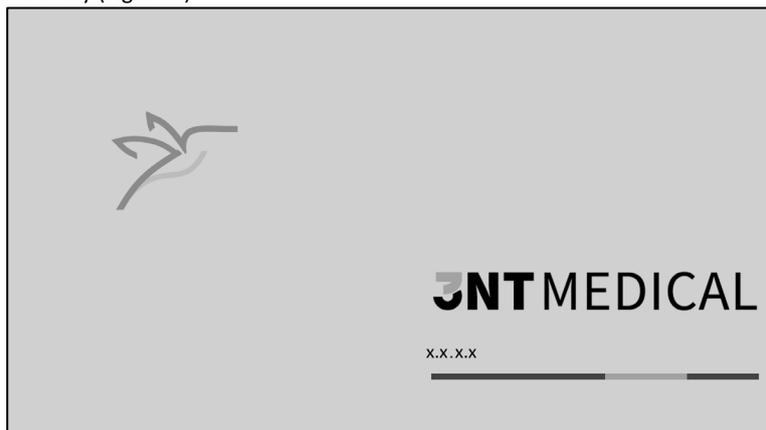

Figure 3 - Login Screen
5. Switch on the Console by firmly pressing the power ON/OFF button. The power ON/OFF LED will turn green and the application software will upload automatically (Figure 3).